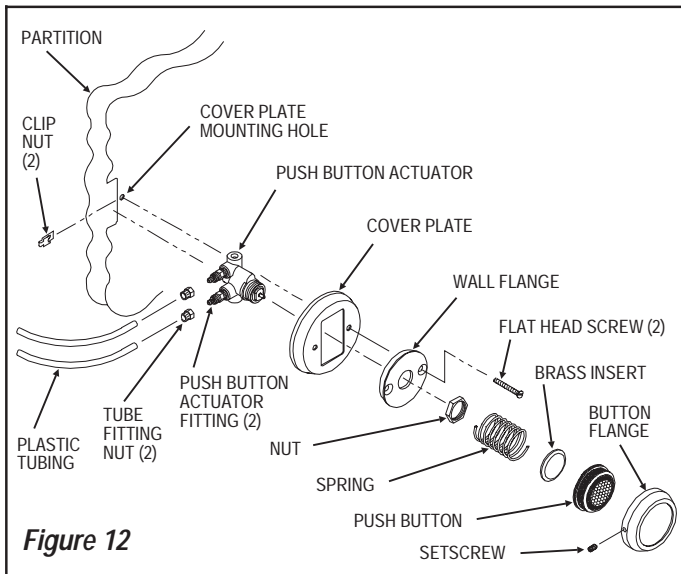

Figure 12
**INSTALLATION OF MODEL HY-49-A METAL PARTITION PUSH BUTTON ACTUATOR (Figure 12)**